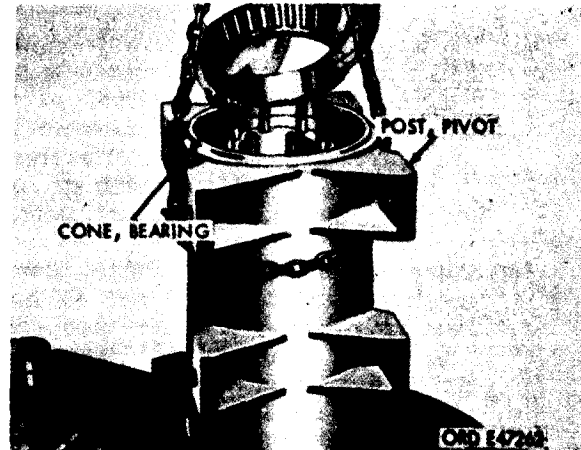
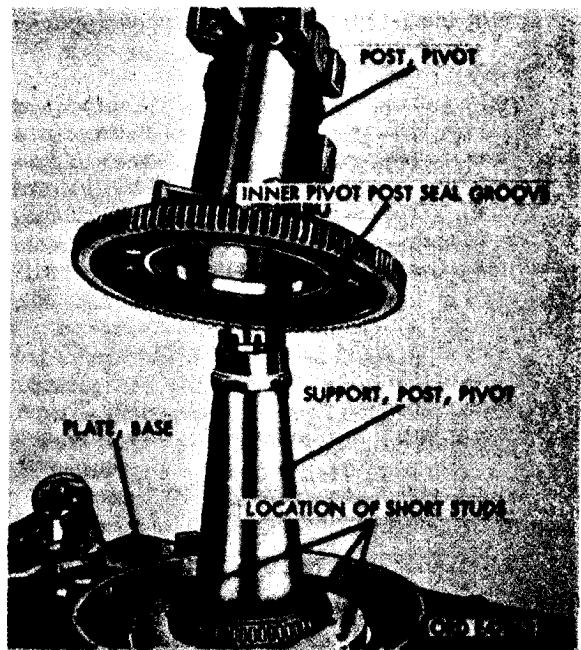

Figure 474. Removing bearing cone from pivot post
Figure 475. Removing pivot post from base plate
- (d)** Attach chain hoist to pivot post and lift high enough to permit removal of bearing cone. Remove bearing cone (fig. 474). Continue lifting pivot post until it is free from pivot post support (fig. 475).
the base plate. Three of these studs are slightly shorter than the others in order to provide clearance. For installation position of short mounting studs, refer to figure 475.
- (b) Install 13 mounting studs (AC) and three mounting studs (N) on bottom side of pivot post support (P). Attach on overhead hoist to pivot post support and position on base plate (J). Install 13 safety nuts (AE) on long mounting studs and three hex-nuts (K) on short mounting studs. Tighten according to torque specification table in Appendix I.
- (c) Install bearing cone (R) at base of pivot post support (P). Position bearing cup (S) in pivot post (BB). Tap cup lightly around edges with a soft hammer until it is seated in pivot post. Make sure cup does not become cocked. Install bearing cup (CC) in swivel valve end of pivot post in same
manner. Install inner pivot post seal (T) in groove (fig. 475) in base of pivot post. Install eight studs (Q) in swivel valve end of pivot post support, for securing pivot post support cap.